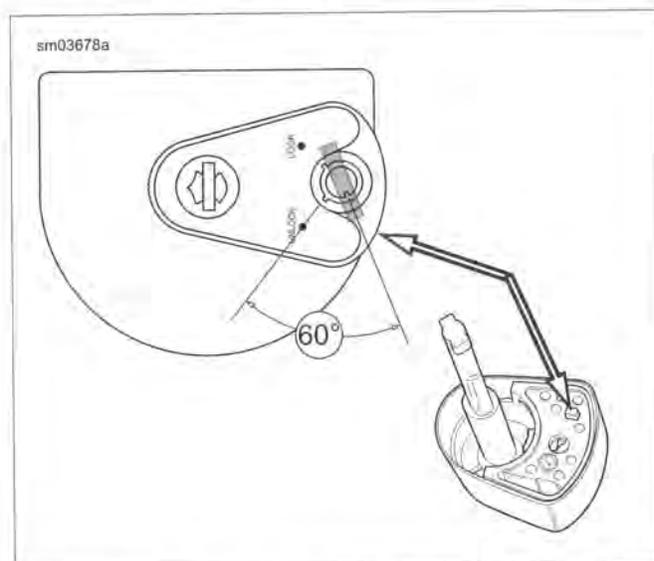

Figure 7-45. Ignition Switch Knob Release Button (Top and Bottom Views)
- b. See Figure 7-45. Rotate the knob to FORK LOCK.
- c. Press and hold the release button at bottom (left side) of the knob, and turn key 60 degrees counterclockwise.
- a. See Figure 7-45. Verify that button at bottom of knob is pressed and key is turned 60 degrees counterclockwise of the UNLOCK position.